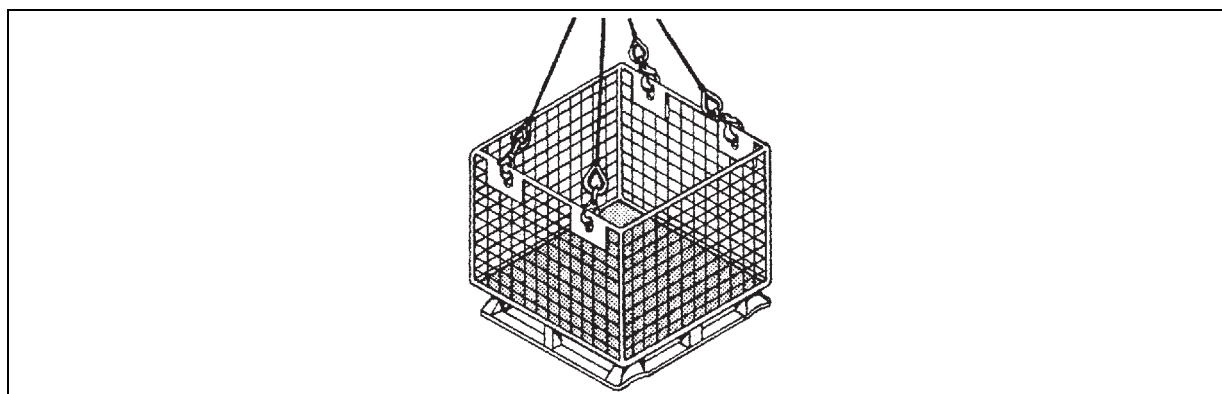

Figure 9-2. Hoisting Sling Hooked to Cargotainer
- **Cargotainers.** A cargotainer is a pallet with wire mesh sides that fold down for compact storage (figure 9-2). The cargotainer is ideal for transferring loose and odd-shaped items.
- **Cargotainer Loading (figure 9-2).** When preparing cargotainer loads, remember the following: